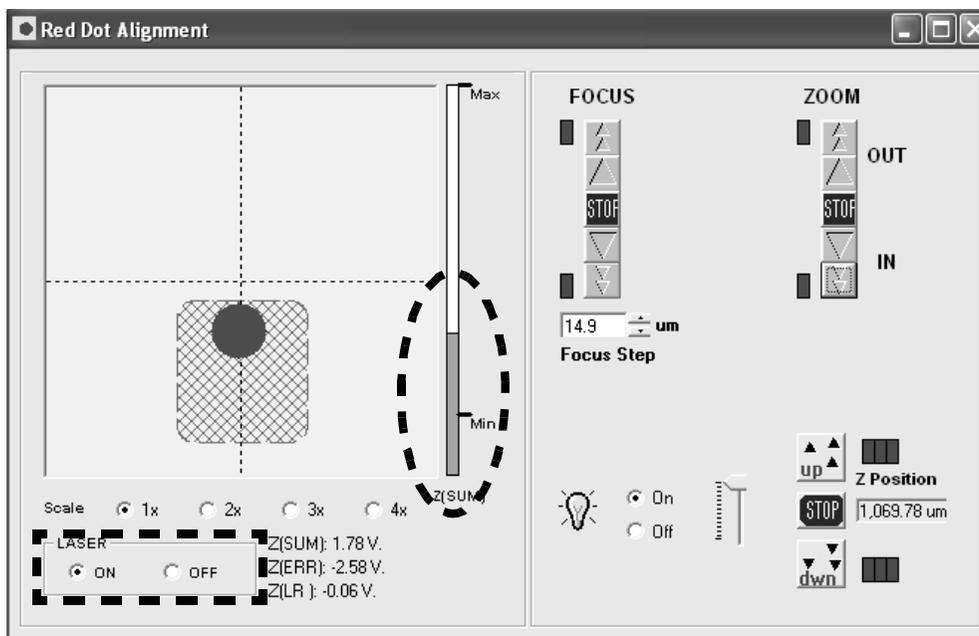

Figure 2.27. Aligning the detector.
- 6 Watch the red dot (in the Red Dot Alignment window) as you turn the detector alignment knobs to bring the red dot into the top of the green box. The red dot should be positioned just below the upper border of the box and be centered along the vertical axis, as shown in Figure 2.27.